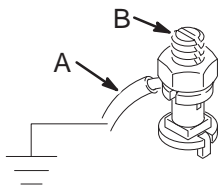

Fig. 1
**To ground the agitator**, connect one end of the ground wire (A) to the ground connector (B) on the agitator. See Fig.1. Connect the other end of the ground wire to a true earth ground.